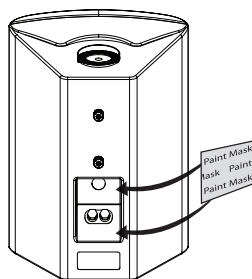
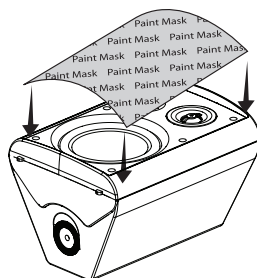

figure 1
figure 2
2. Mask off the binding posts on the back of the speaker [figure 1], the end panels and bracket knobs, and carefully mask off the front of the speakers to protect the drivers and baffles while painting [figure 2]. The grille features an engraved logo pod. You can mask this off or paint right over it.